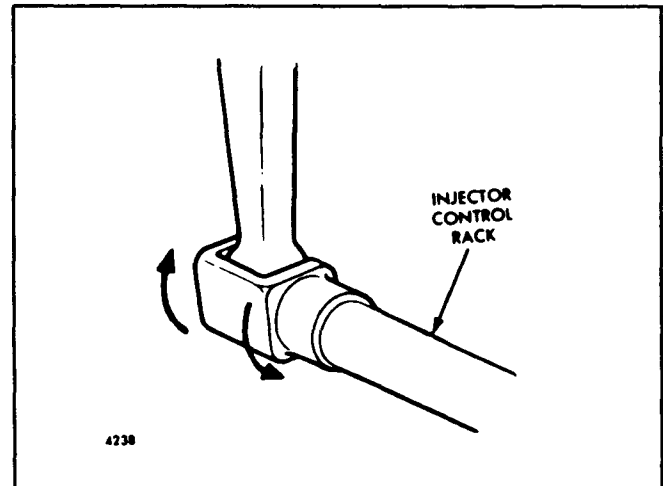
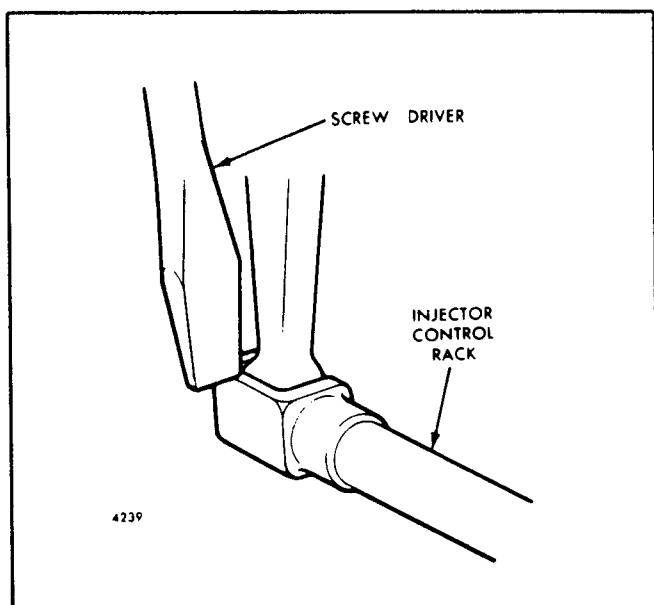

Fig. 3 - Checking Rotating Movement of Injector Control Rack
Fig. 4 - Checking Injector Control Rack "Spring"
7. To be sure of the proper rack adjustment, hold the speed control lever in the maximum speed position and press down on the injector rack with a screw driver or finger tip and note "rotating" movement of the injector control rack (Fig. 3). Hold the speed control lever in the maximum speed position and using a screw driver, press downward on the injector control rack. The rack should tilt downward (Fig. 4) and when the pressure of the screw driver is released, the control rack should "spring" back upward.